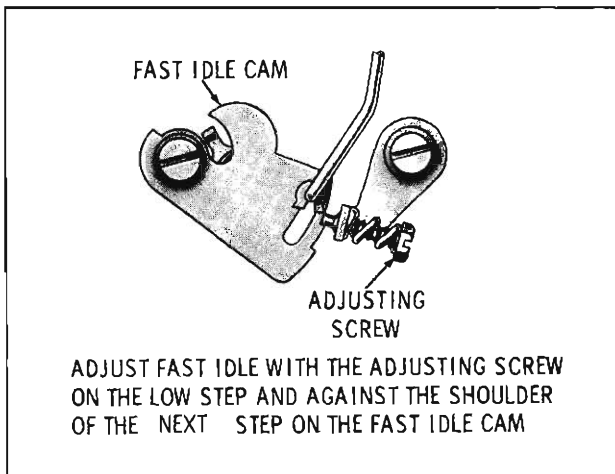

Fig. 4-31 Fast Idle Adjustment
1. Open throttle valves and rotate the fast idle cam so that the fast idle screw is resting on the low step and against the shoulder of the next step. (Fig. 4-31)